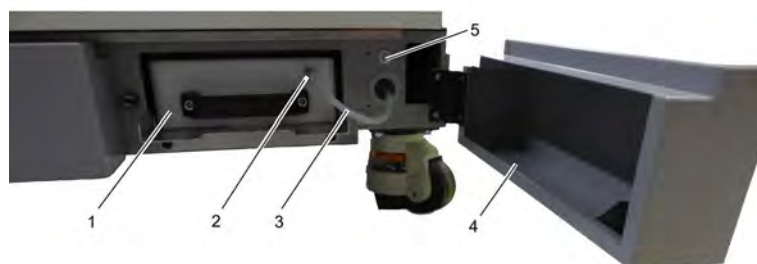

Figure 4-8. Water reservoir open
1. Open the water reservoir door at the lower front (Figure 4-8, 4).
2. Disconnect the tubing (Figure 4-8, 3) off the CPC connection on the water reservoir (Figure 4-8, 2) and attach the loose end to the device on the right (blind CPC receptacle; Figure 4-8, 5).
3. Pull out the reservoir drawer (Figure 4-8, 1) up to the mechanical pull-out limit, then lift it slightly and remove the water reservoir completely.